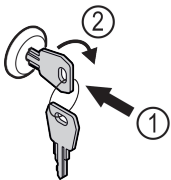

Fig. 192
- ▶ Insert the key. Fig. 192 (1)
- ▶ Turn the key clockwise by 90°. Fig. 192 (2)